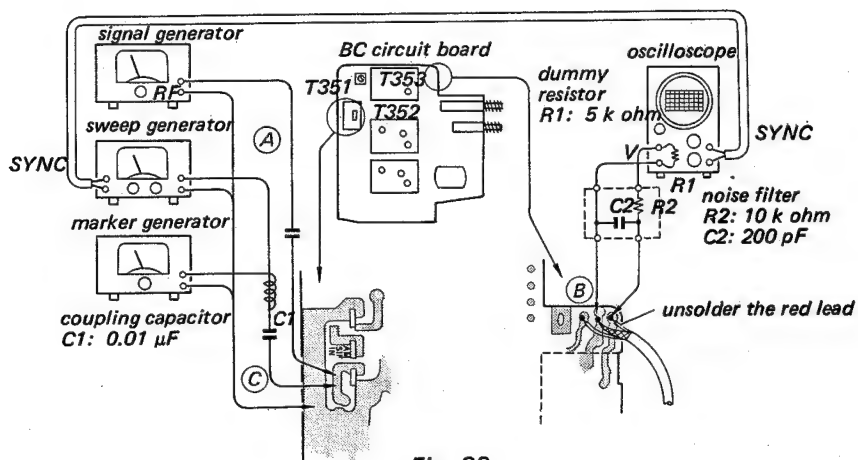

Fig. 23
- Unsolder the tuner output lead from signal circuit board (BC).
- Connect a dummy resistor (5k-ohm) across the scope input terminal through a noise filter consisting of a 10k-ohm resistor and a 200pF capacitor as shown in Fig. 23.
- Connect a sweep/marker generator to the AM-SIF input to the signal circuit board (BC) through a 0.01μF capacitor as shown in Fig. 23.
Scope	AM-SIF output (② in Fig. 23)
Scope	AM-SIF output (④ in Fig. 23).